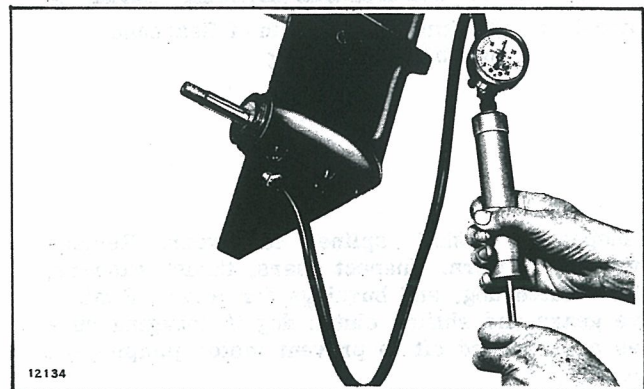

Figure 6-19A. Gearcase Pressure Test
1. Remove drain plug and screw in a pressure test gauge. See Figure 6-19A. Stevens Experimental pressure test gauge illustrated.